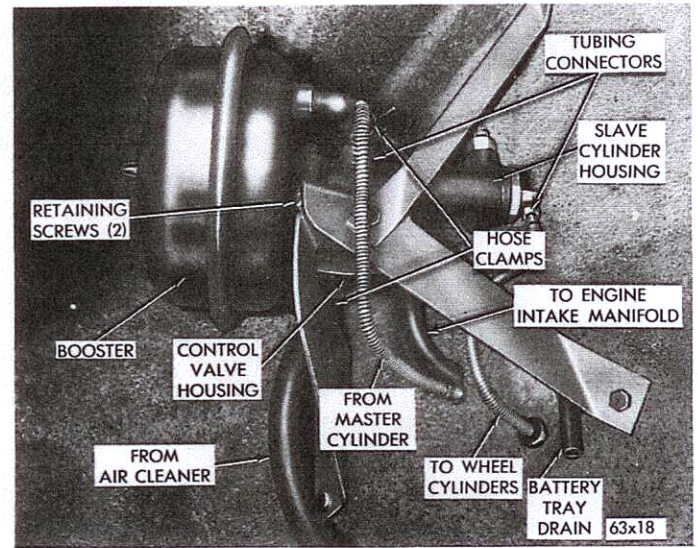

Fig. 4 - Remote Power Brake
The remote power brake system for the 300J Models is mounted on brackets under the left front fender, just back of the headlamp housing (Fig. 4). All the brake service procedures are the same as outlined in the 1963 Imperial and Chrysler Service Manual with the following exceptions:
- (2) Open the inlet bleeder screw of the booster (closest to the master cylinder) (Fig 4), and permit the fluid to run until free of air bubbles.
- (3) Open the outlet bleeder screw (Fig. 4) and allow the fluid to run until free of bubbles.
- (4) Bleed the wheel brake cylinder in the following sequence: Left front, right rear, right front and left rear. Repeat if necessary and inspect for leaks.